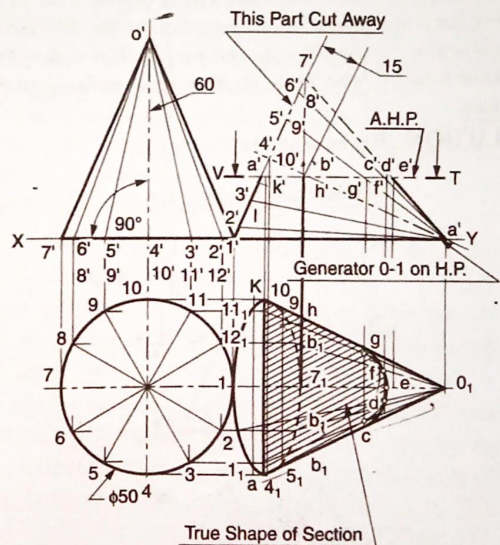

Fig. 14.5.
3. Through the point P draw the given section plane (VT), which is parallel to the XY line, in this case.
**SOLUTION:** Refer Fig. 14.5.